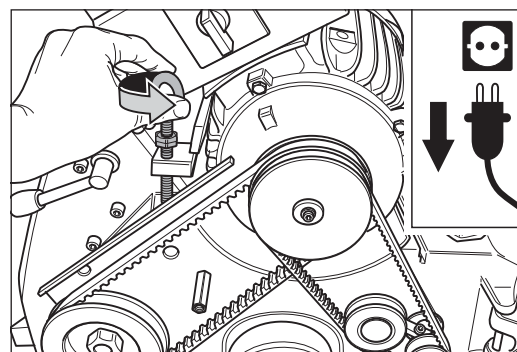

Fig. 95 Release the tension of the V-belts by turning the eye bolt at the motor counterclockwise.
- 5 Release the tension of the V-belts by turning the eye bolt at the motor counterclockwise (Fig. 95).